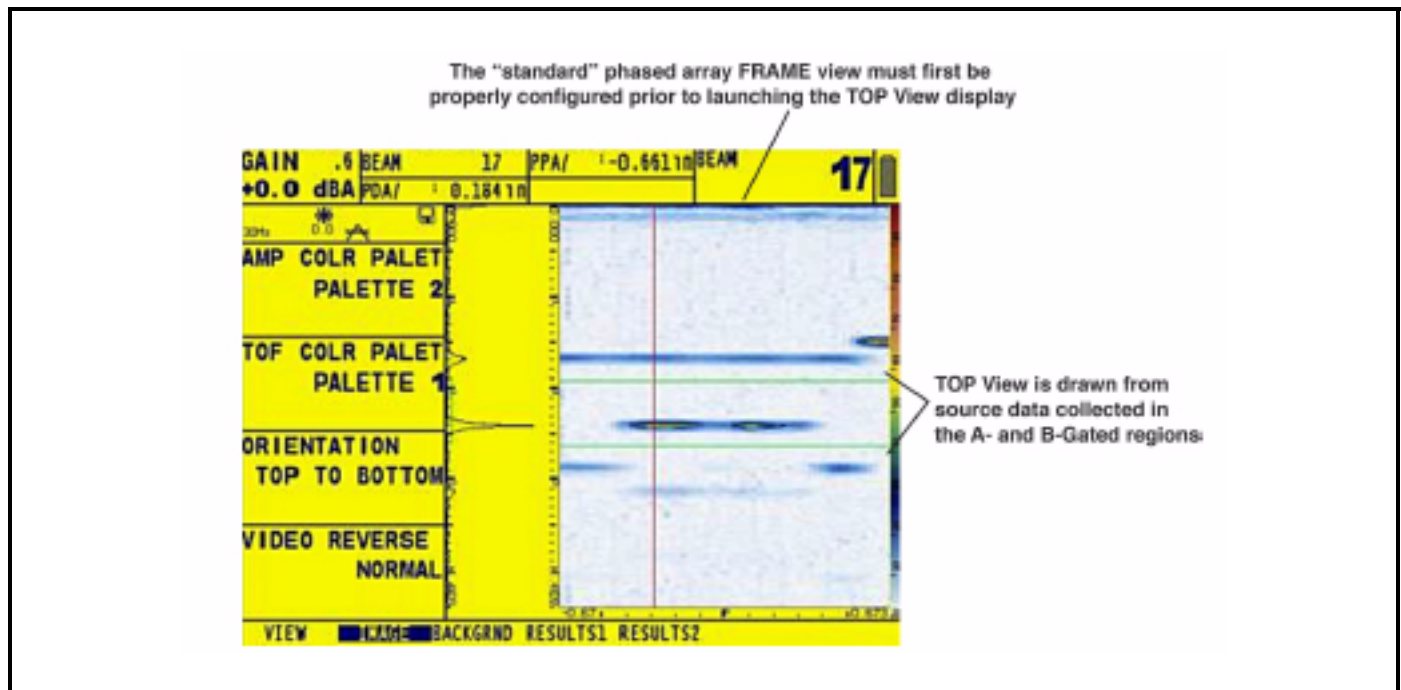

Figure 64: The A- and/or B-Gated regions in a sector or linear scan provide the data sources from which the TOP View display is generated.
3. Adjust the A- and/or B-Gate starting point and width to capture the test-material region of interest (Figure 64 on page 147). Refer to Section 2.8.1 to position gates.
Note: While scanning in TIMED mode, TOP View data is first added to the display screen. When the screen is full, the initial data "scrolls" into the instrument's data buffer. Scrolling direction is defined in Step 5. In TIMED CONT Mode, when the buffer is full, acquiring new data automatically causes the oldest data in the buffer to be overwritten. At any time, the TOP View scanning process can be stopped, allowing on-screen and buffered data to be stored in a data set (Figure 64 below).